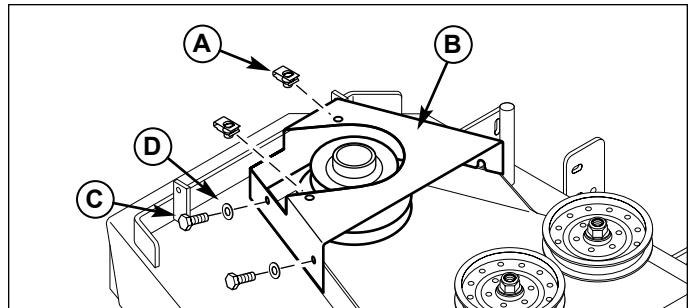

Figure 5. Install Guard
1. Install the new deck guard (B, Figure 5) and secure with the 5/16-18 x 3/4" bolts (C) and 5/16" washers (D) previously removed.
2. Install the 5/16" body clips (A) over the holes in the guard with the threaded side pointing down.